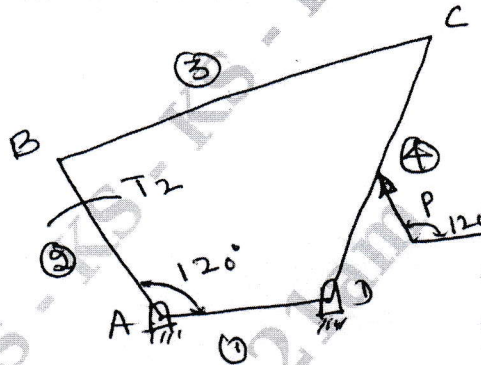

Fig.Q1(b)
- b. A four bar mechanism is shown in Fig.Q1(b), which is acted upon by a force $P = 100 \angle 120^\circ$ N on link CD. The dimensions of various link are $AB = 40$ mm, $BC = 60$ mm, $CD = 50$ mm, $DA = 30$ mm and $DE = 20$ mm. Determine the magnitude and direction of input torque T_2 on link AB for static equilibrium of the mechanism.